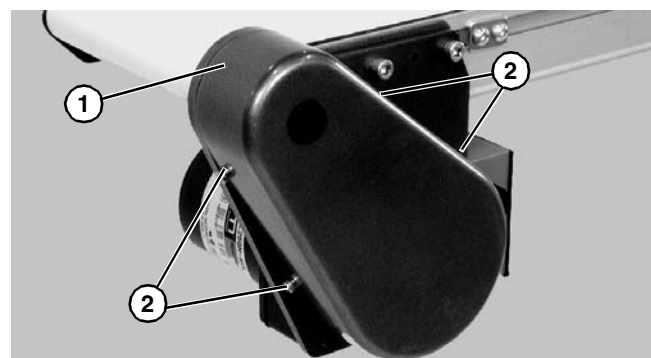

Figure 16
11. Install cover (Figure 16, item 1) with four (4) screws (Figure 16, item 2). Tighten to 35 in-lb (4 Nm).